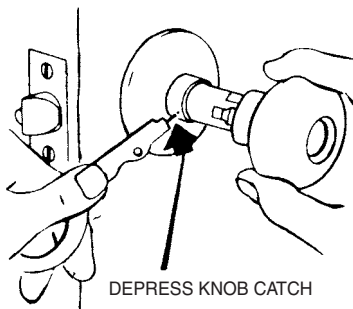

Figure 19.50 Electrified key-in-knob lock installation, Step 7.
7. Replace the knob by lining up the keyway in the knob with the slot in the spindle. Push the knob straight on until the knob hits the knob catch. Depress the knob catch and push the knob straight on until the knob catch clicks into place. Test both knobs to make sure they are securely fastened to the spindle (Fig. 19.50).